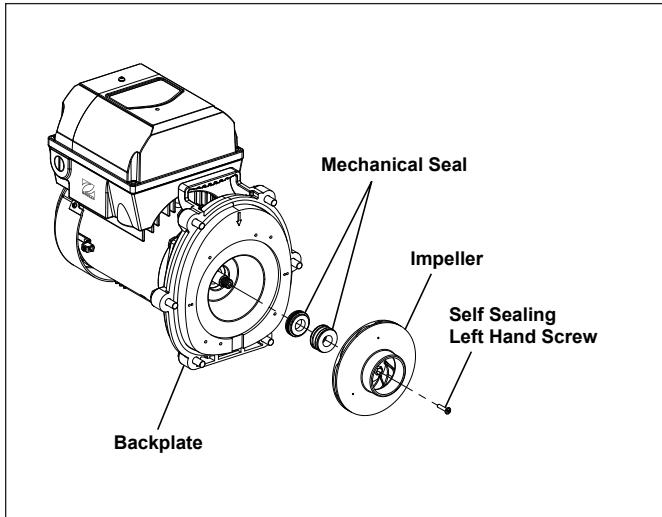

Figure 15. Remove the Impeller
7. Hold the exposed motor shaft with a $\frac{1}{4}$ " hex allen wrench and remove the impeller center screw using a No. 2 Phillips screwdriver. Turn the left-hand-threaded screw clockwise to loosen it. See Figure 15.
2. Remove the carbon face seal half from the motor shaft (See Figure 15). This is a spring-loaded seal. Grasp the portion of the seal closest to the impeller body and pull the seal off, using a twisting motion.